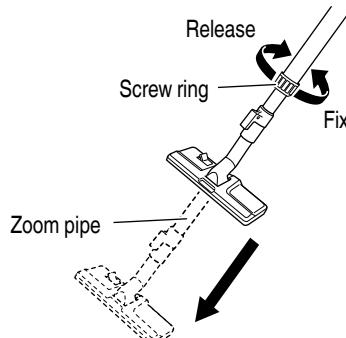

Fig. 17
- (2) Next, loosen the screw ring on the zoom pipe and adjust to the length appropriate to the task. After the adjustment, make sure the screw ring is secure by securely tightening it. (Fig. 17)